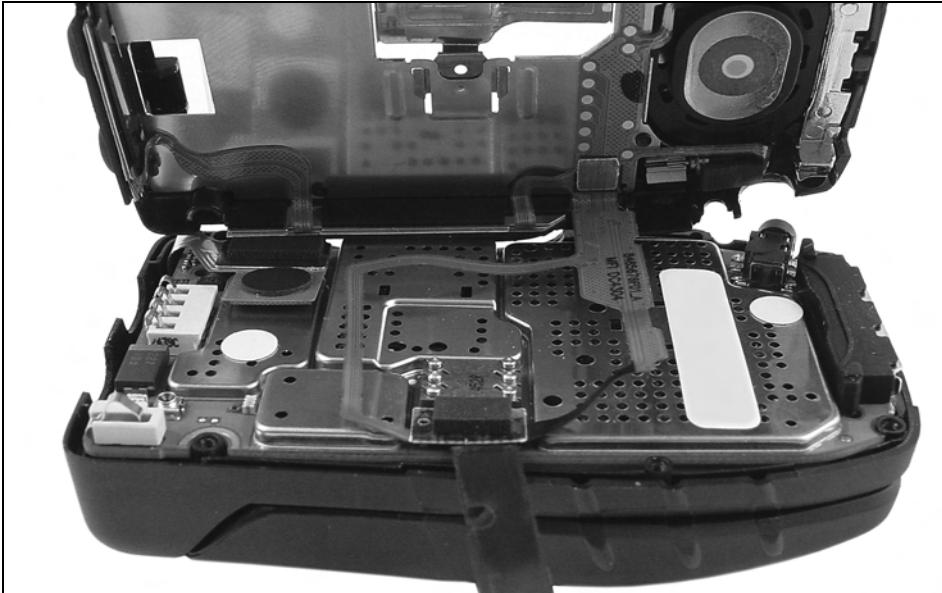

Figure 7-5.
4. Wedge black stick under flex pad to unseat the housing flex connector (see Figure 7-5).